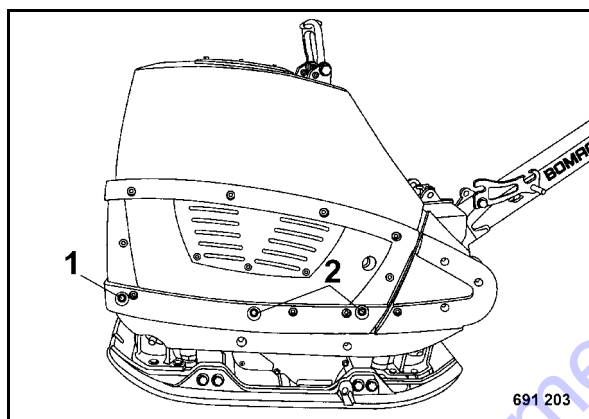

Fig. 21
- Loosen the hood fastening screws (1) on both sides and remove the hood fastening screws (2) on both sides (Fig. 21).